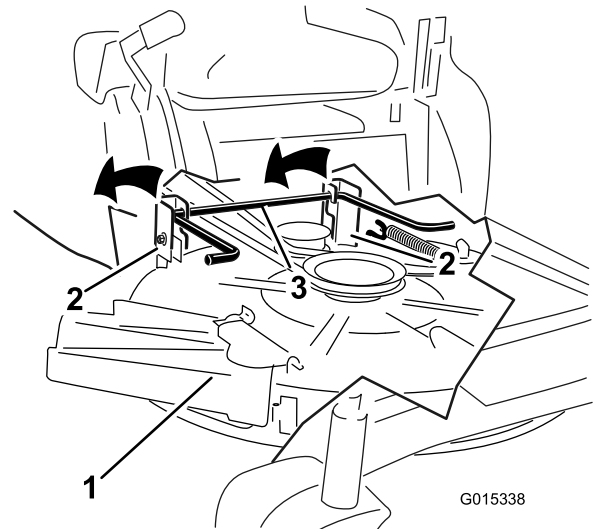

Figure 55
5. Lift the mower deck and hanger brackets clear of the rear lift rod, and lower the mower carefully to the ground (Figure 55).
5. Lift the rear of the mower deck and guide the hanger brackets over the rear lift rod (Figure 55).